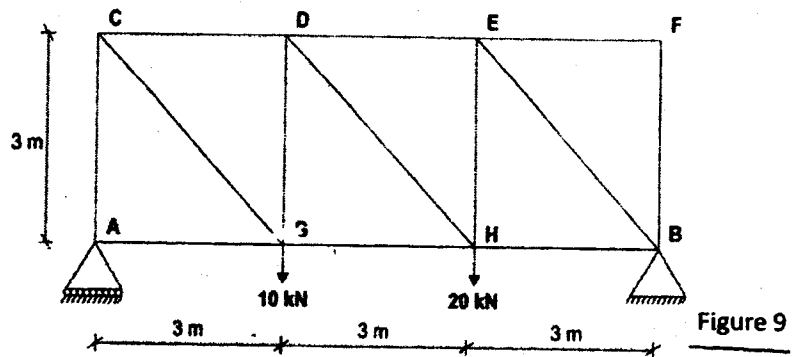

Figure 9
- c Find member forces F_{CD} , F_{DG} , F_{GH} of the pin jointed truss shown in Figure 9 using method of section. (06)